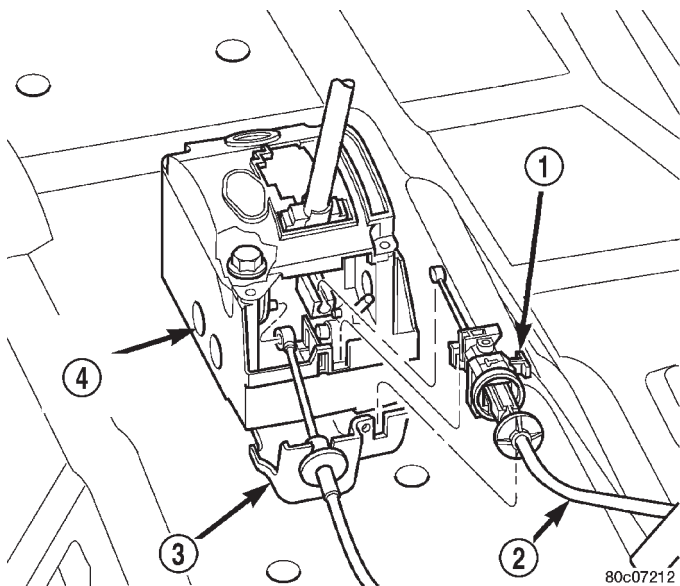

Fig. 448 Interlock Cable at Shifter Assy.
- (4) If the interlock cable is being replaced, remove the pin to allow cable to "self adjust." Press locking clip (Fig. 448) by hand to secure adjustment.
- (5) If the interlock cable is not being replaced, the pin will not exist. Loosen the locking clip (Fig. 448) on the interlock cable to allow cable to "self adjust." Press locking clip (Fig. 448) by hand to secure adjustment.